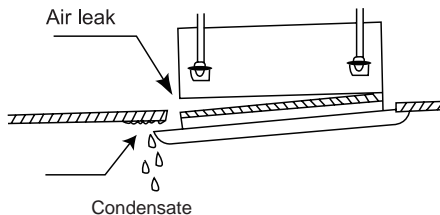

Fig.35
- (2). Improper screwing of the screws may cause the troubles shown in Fig.35.